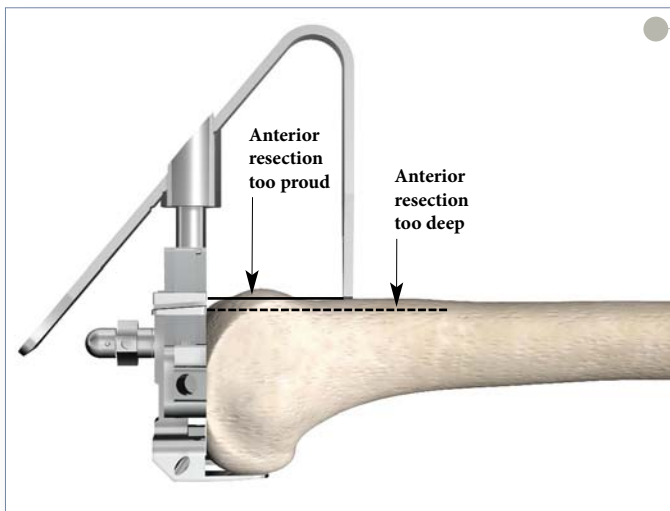

Figure 14
- ▶ Preparing for the larger size prevents notching but may lead to overstuffing of the patello-femoral joint (**Figure 14**). The A/P Sizer has been designed to avoid both these situations by allowing the overall position of the drill holes to be adjusted to provide the optimum anterior resection.